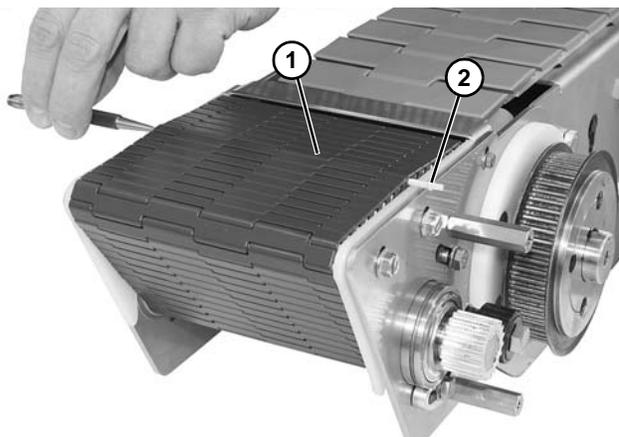

Figure 62
7. Lift slightly on belt (**Figure 62, item 1**) and push pin (**Figure 62, item 2**) out of chain.